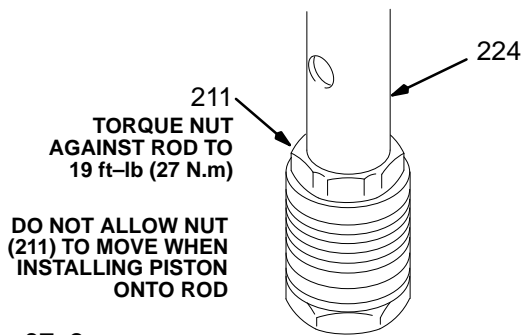

Fig 37-2
- Use a wrench to **CAREFULLY** tighten the nut (211) onto the piston rod to 19 ft-lbs (25 N.m). See Fig 37-2.